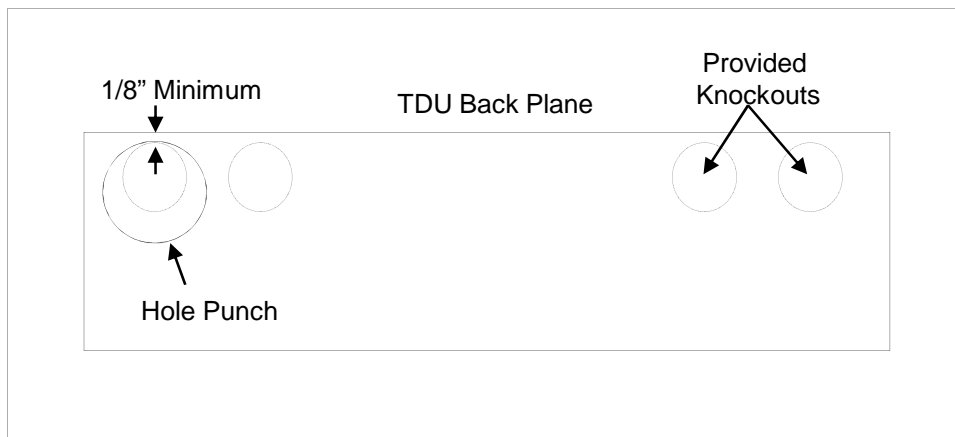

Figure 4
7.6 When using hole punch, do not remove TDU knockout. Position hole punch so its edge is about 1/8" minimum from TDU back plane. **See Fig. 4.**